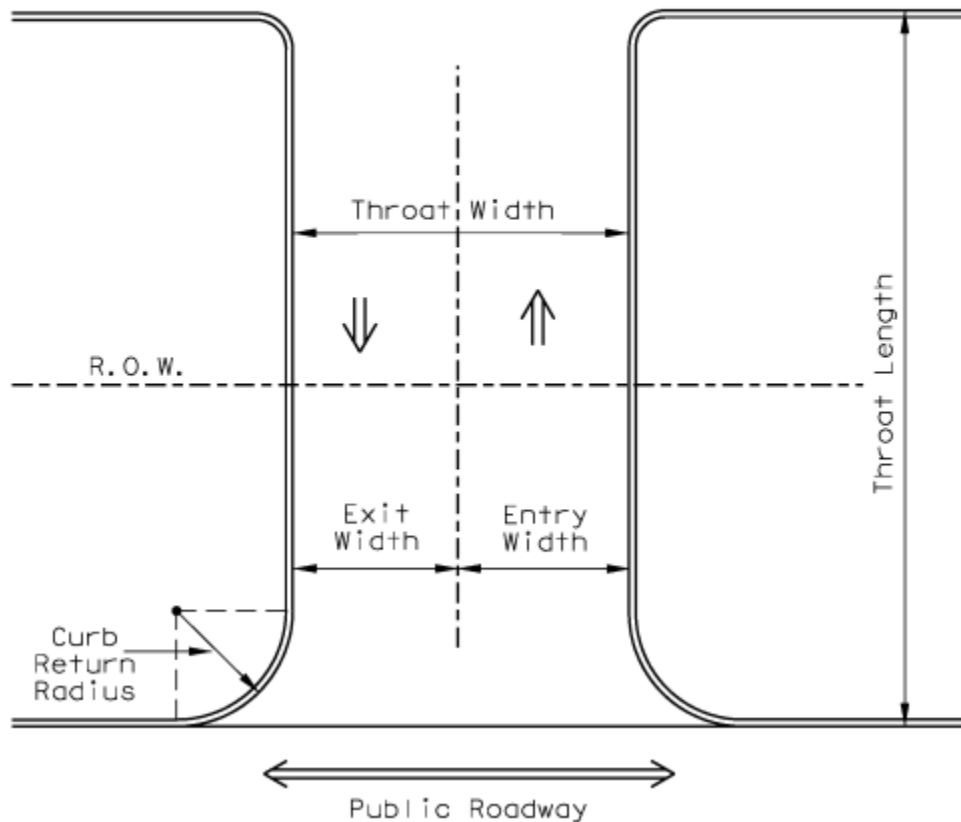

Figure C-2. Driveway Design Elements
3. Figure C-2 illustrates various driveway design elements including return radius, entry width, exit width, throat width, and throat length.